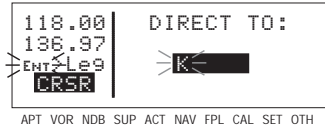

Figure 3-96
2. Rotate the right inner knob to select the first character of the desired waypoint's identifier, in this case, a "K" (figure 3-96). Remember to enter the "K", "C", or "P" prefix for certain airports in North America, if required (see section 2.3, "ICAO Identifiers").